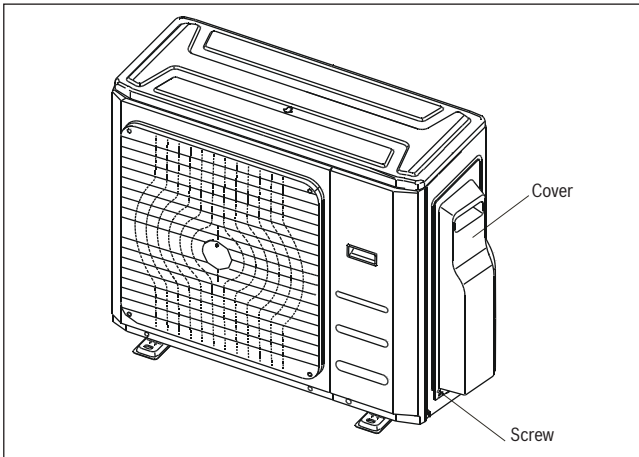

Fig. 22.
2. Remove the electric cover of the outdoor unit. If there is no cover on the outdoor unit, disassemble the bolts from the maintenance board and remove the protection board. (See Fig. 22)